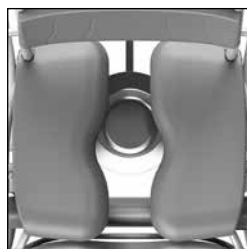

Figure 13 Stainless steel bedpan, back.
- If you are using a stainless steel bedpan or bucket, the bedpan can be placed in 2 positions under the seat. At the front of the seat (See figure 12) or at the back of the seat (See figure 13).